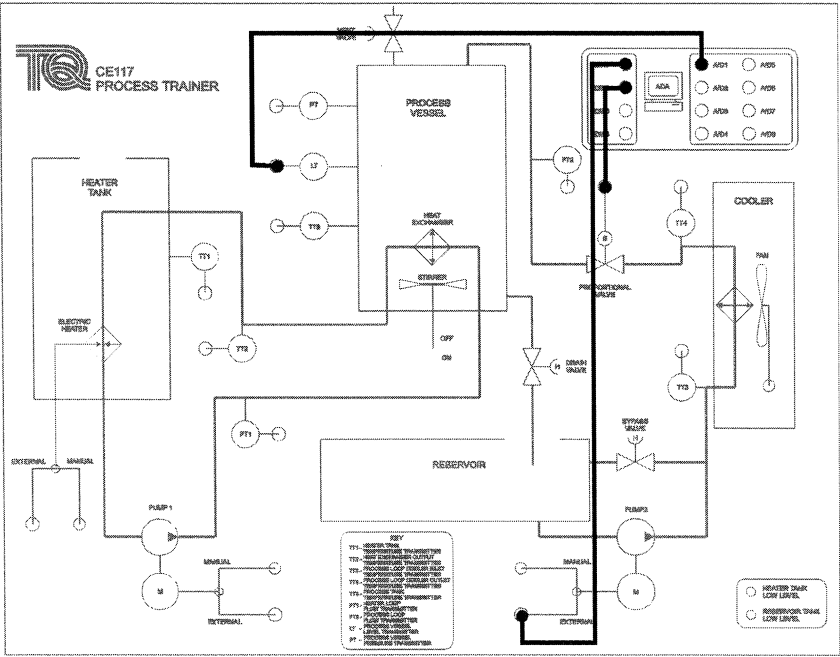

Figure 63 Connections For Experiment 4 Procedure 2
- 3) Connect the CE117 Mimic Panel as shown in Figure 63. Set Pump 2 switch to 'External'. Analogue signals will pass from the ADA section to Pump 2, the proportional valve (S) and from level transmitter (LT).